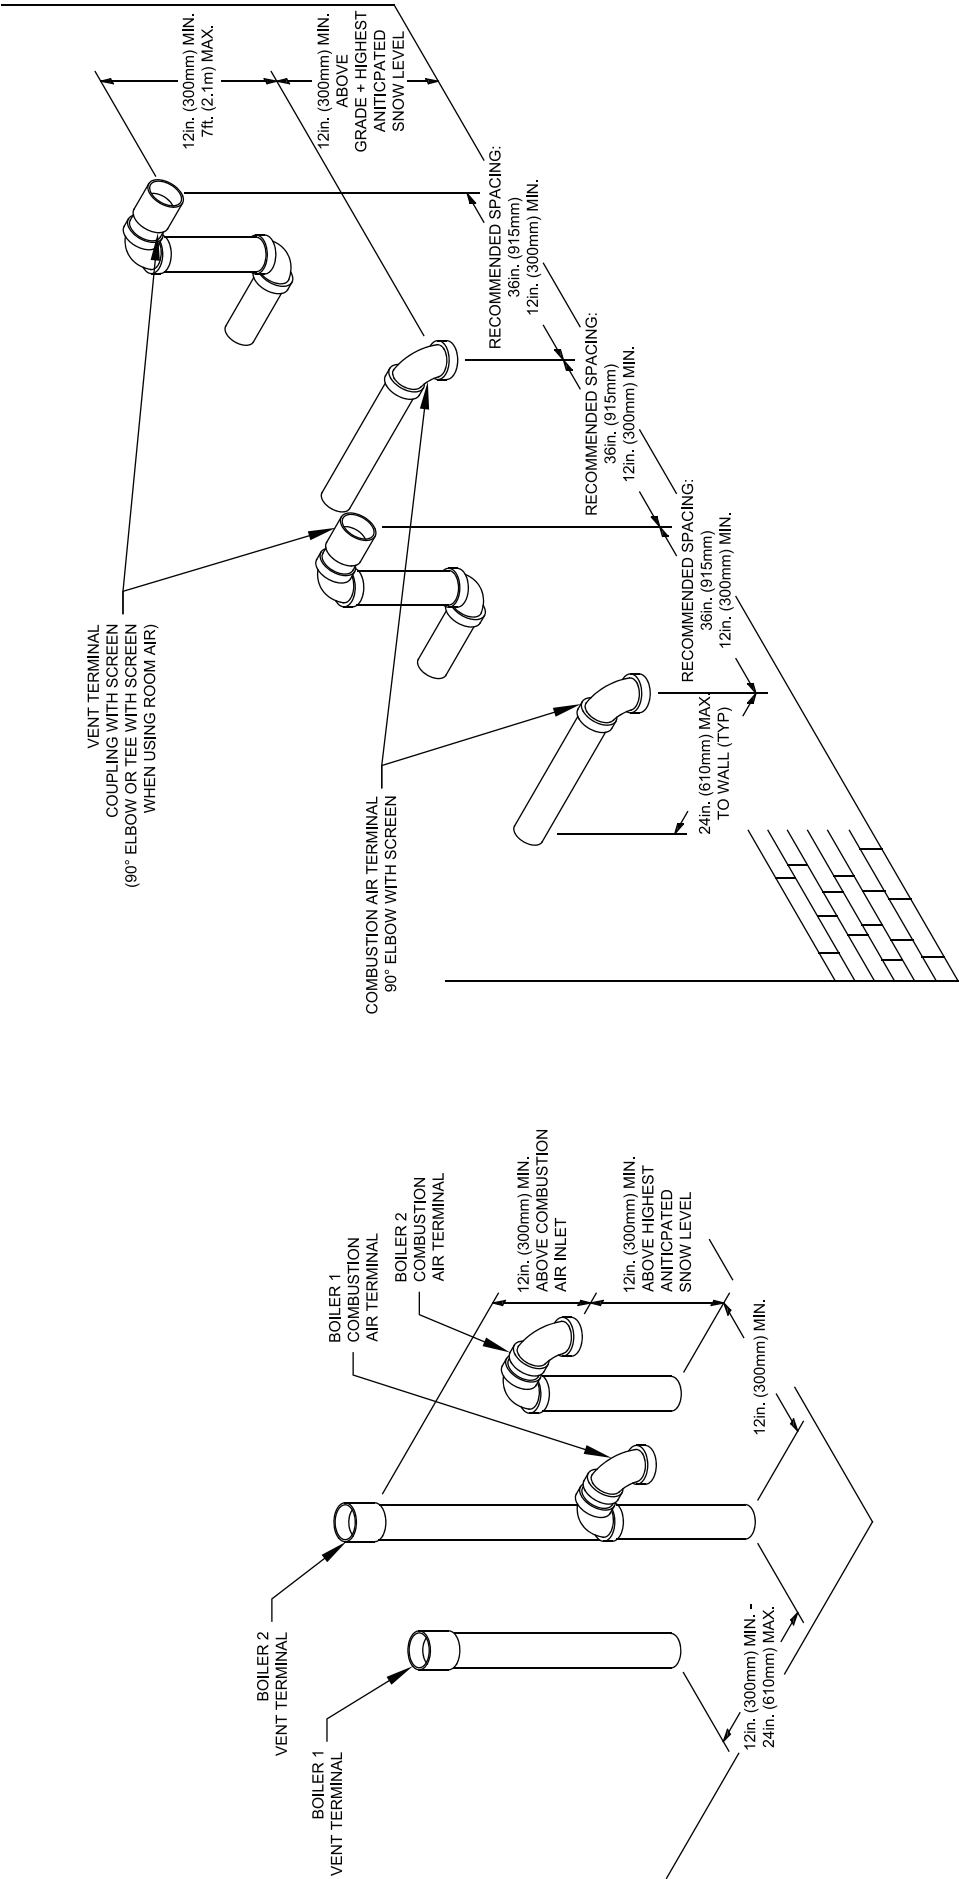

Figure 23: Multiple Boiler Direct Vent Termination
- a. Multiple boiler vent terminations are shown in Figure 23.
- a. Multiple boiler combustion air terminations are shown in Figure 23.